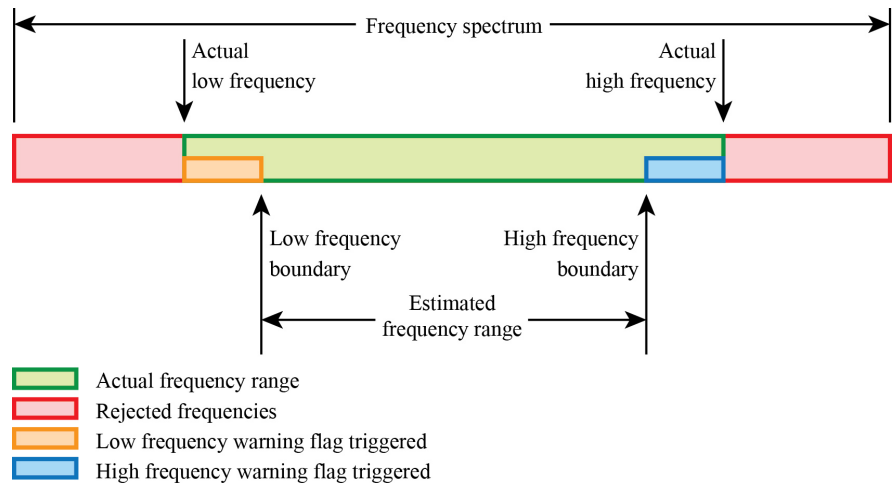

FIGURE 7-8. Relationship of Estimated- and Actual-frequency ranges and Frequency Warning Flags
FIGURE 7-8 shows how boundaries and ranges relate to each other:
- When a resonant frequency falls between the estimated- and actual-frequency ranges. This may indicate a change in the output of a sensor before the output moves outside the actual-frequency range. See FIGURE 7-8, *Relationship of Estimated- and Actual-frequency ranges and Frequency Warning Flags* (p. 32).